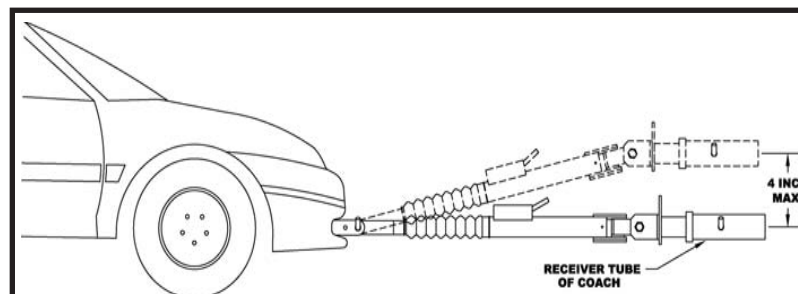

Figure 2
- Using the cable hooks, attach the cables to a solid part of the chassis of the towed vehicle or to the convenience links. Slip the end of the hook through the neoprene keeper to prevent the hook from unhooking. (See Fig. 3) **NOTE:** It is best to have permanent chains that connect the convenience links to the frame of the car. (See Fig. 2)
CAUTION: It is important that the attachment points at the center of the attachment tabs and the center of the coach's hitch receiver should be of equal distance. If a deviation must be present, it should be no more than four (4) inches from the tabs up to the hitch receiver. There should be no deviation allowed for the hitch receiver tube to be below the level of the attachment tabs. Refer to Figure 2.